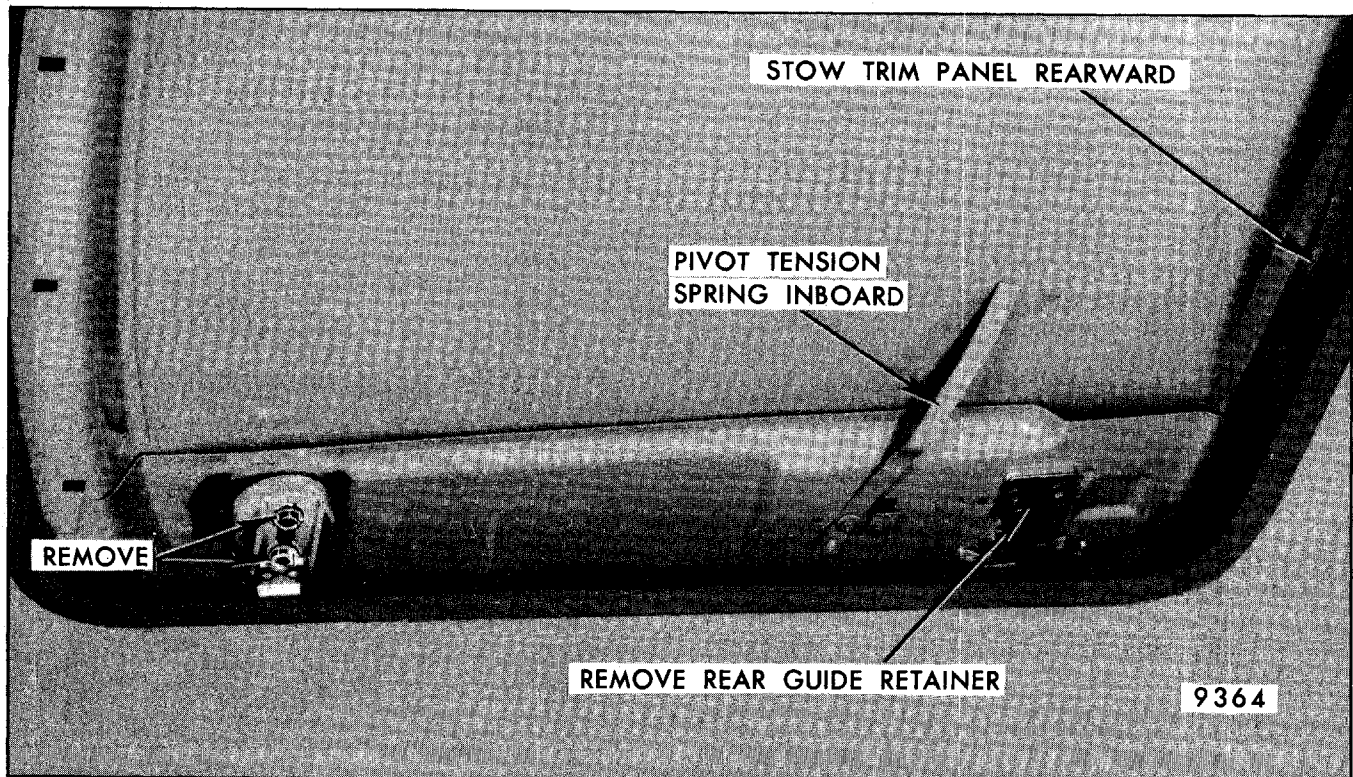

Fig. 8-65-Sun Roof Panel Removal
Removal (Refer to Fig. 8-65)
3. Install screws and tighten both screws on each front guide (14 to 22 in-lb torque), Figure 8-65.
5. Lift rear of roof panel upward and actuate control switch to position cable assembly at rear guide attaching plate into alignment with attaching holes on roof panel (Fig. 8-65).